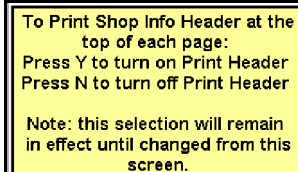

Figure 5-93 Sample shop information confirmation screen
5. A confirmation screen displays (Figure 5-93):